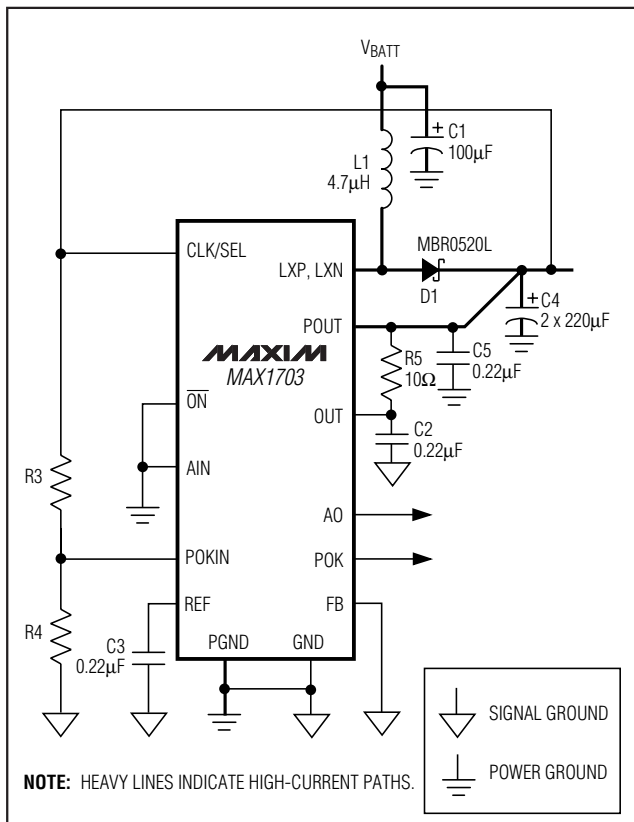

Figure 2. MAX1703 in High-Power PWM Mode
- Note 3:** Start-up is tested with the circuit of Figure 2.
The MAX1703 is optimized for use in cellular phones and other applications requiring low noise during full-power operation, as well as low quiescent current for maximum battery life in low-power mode and shutdown. It features constant-frequency (300kHz), low-noise PWM operation with up to 1.5A output capability. See Table 1 for typical outputs. A low-quiescent-current, low-power mode offers an output up to 150mA and reduces quiescent power consumption to 300 μ W. In shutdown mode, the quiescent current is further reduced to just 1 μ A. Figure 2 shows the standard application circuit for the MAX1703.
Set the output voltage between 2.5V and 5.5V by connecting a resistor voltage-divider to FB from OUT to GND, as shown in Figure 2. The resistor values are then as follows: